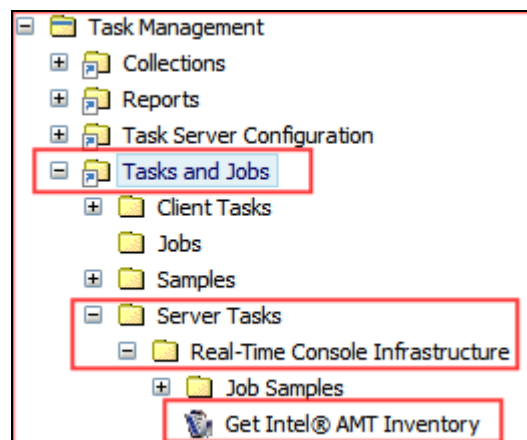

Figure 1: Select Get Intel AMT Inventory
2. Browse to **Tasks and Jobs > Server Tasks > Out of Band Management >** and select **Get Intel® AMT Inventory** (see Figure 1).